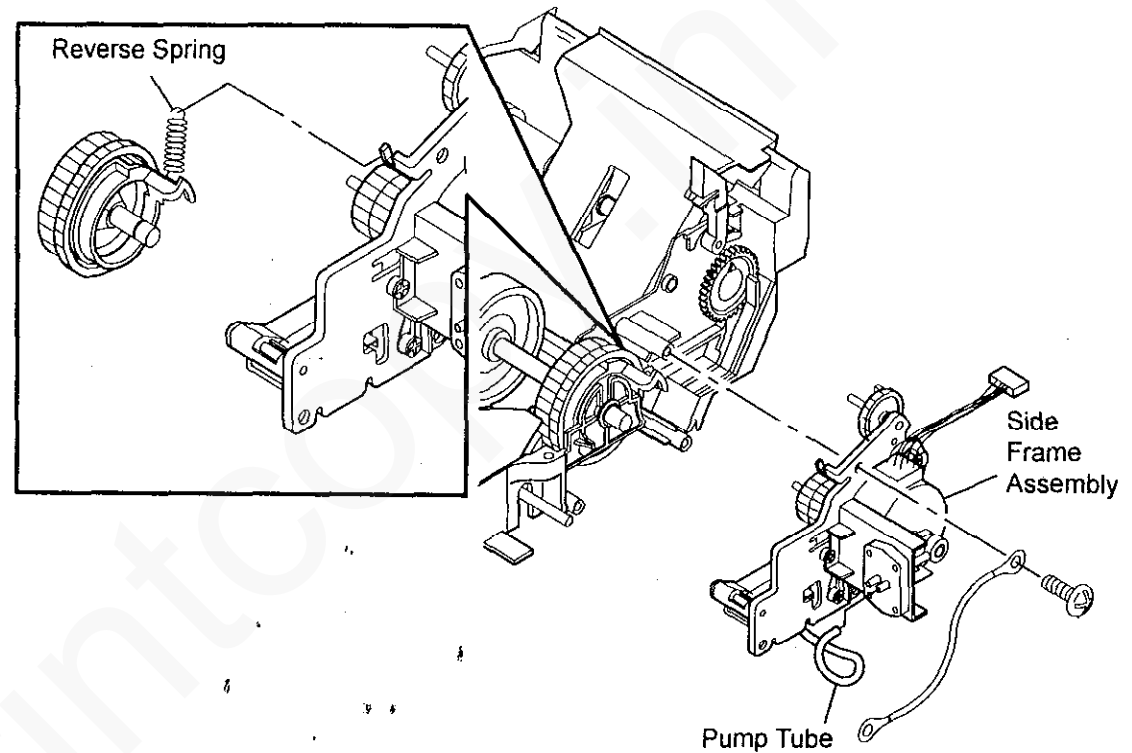

Figure 1 Removing the Side Frame Assembly
3. Remove the Side Frame Assembly (Figure 1).
- b. Remove the three (3) Side Frame Assembly mounting screws.